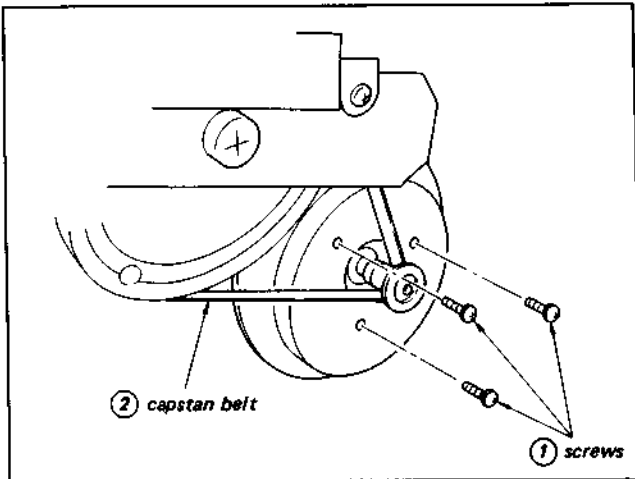

Fig. 3-6. Replacement of capstan DC motor (1)
2. As shown in Fig. 3-6, remove the three screws ① and remove capstan belt ②.